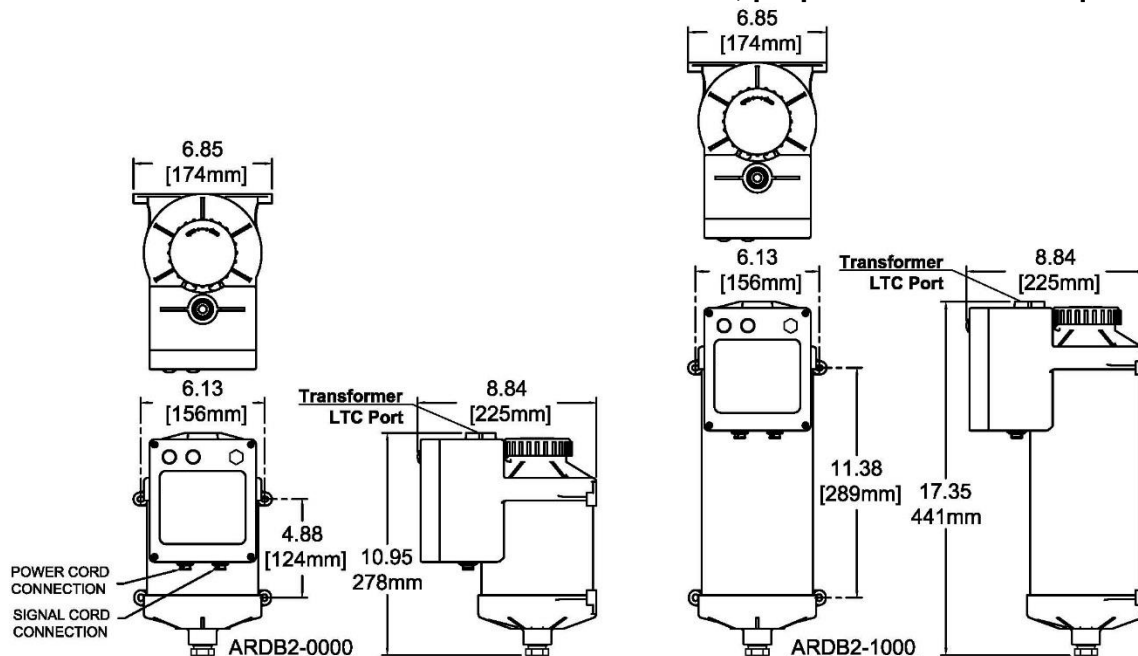

Figure 2 – ARDB2 Mounting Dimensions
1. Measure and mark the mounting holes or studs as shown by the center-to-center distances in Figure 2 above.